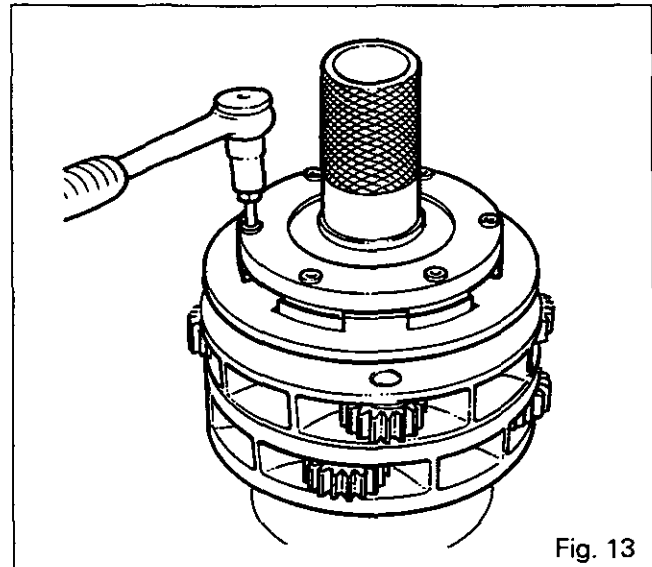
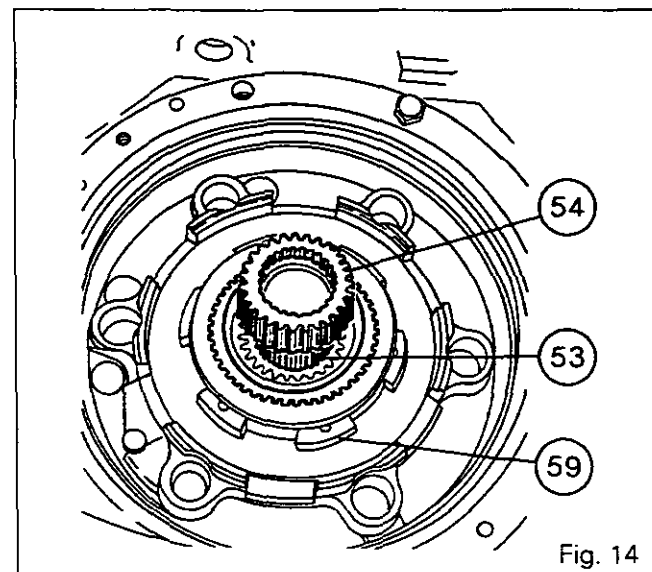

Fig. 13
Fig. 14
41. Centre the rear clutch housing assembly (59) with tool 3376887M1 (Fig. 13). Coat the bolts (46) with Loctite 241 and tighten them to a torque of 13 to 15 Nm. Remove the tool. Separate the housing assembly from the planetary carriers.
42. Coat the thrust washer (51) with miscible grease and position it on the cover (47).
43. Fit a brake disc (41) in the housing (42).
44. Position the rear clutch housing (59) and the thrust washer (51) on the secondary shaft (53). Fit the hub (54), with its internal splines facing upwards (Fig. 14).
45. Position the other two brake discs (41), separated by the pressure plate (44).